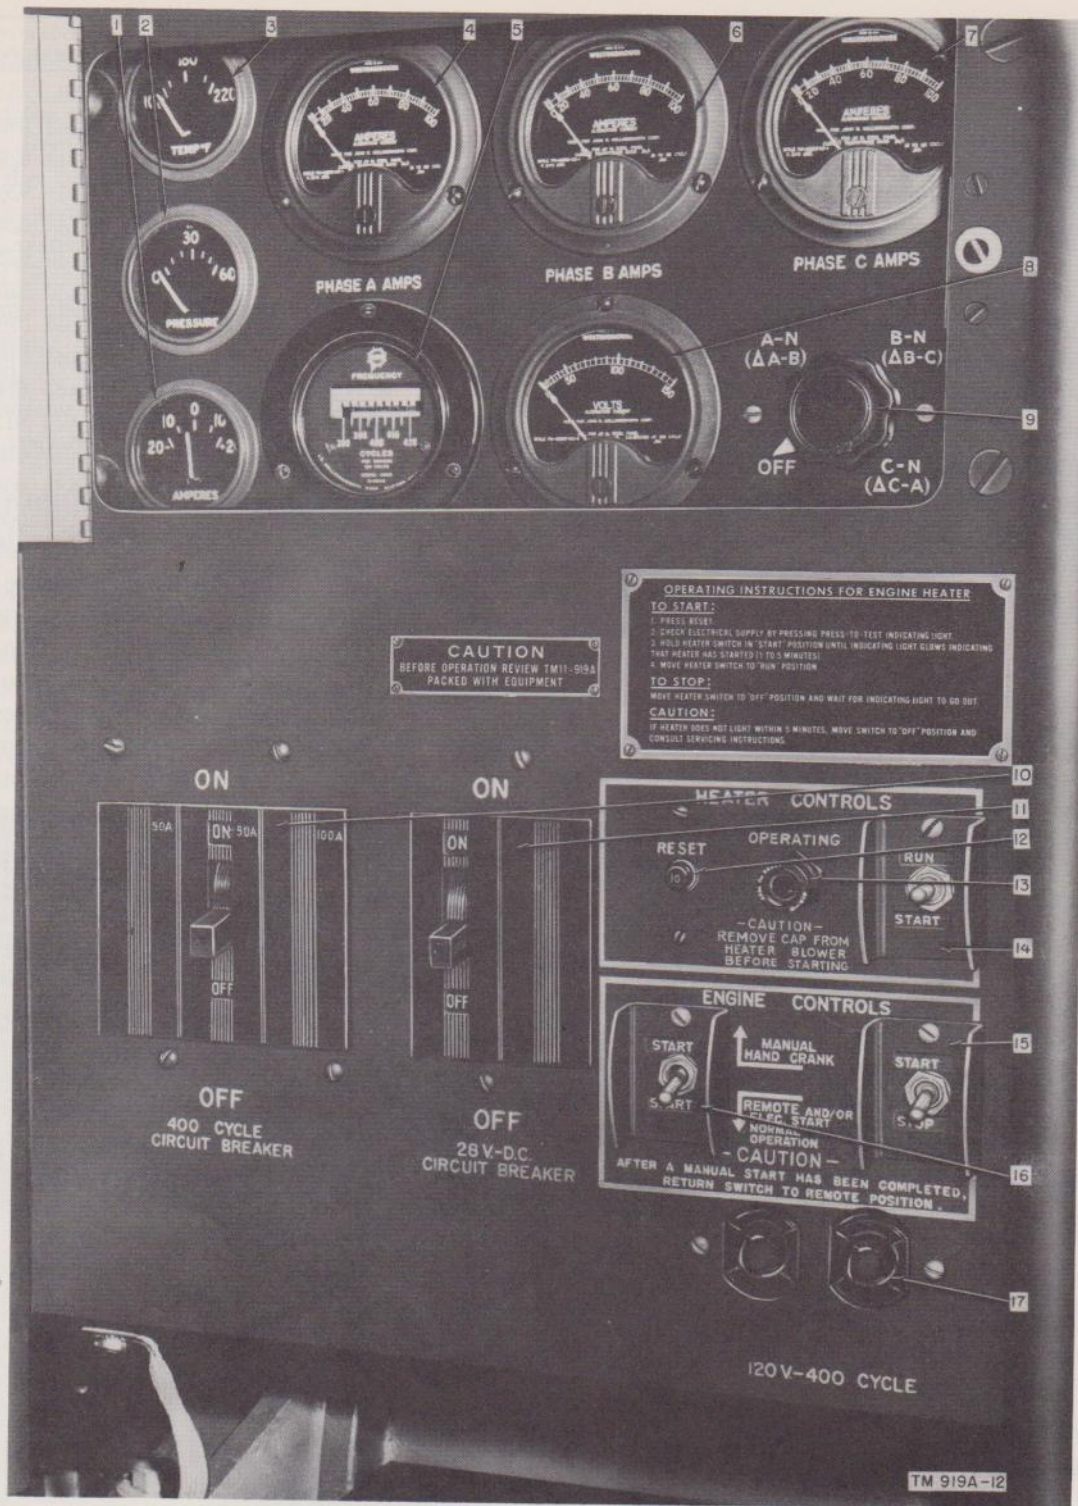

Figure 12. Instrument and control panel.
- (1) *Ignition switch* (16, fig. 12). A toggle-type switch, located on the control panel, selects the ignition circuit for MANUAL HAND CRANK or REMOTE AND/OR ELEC. START NORMAL OPERATION. If the unit is to be started by hand cranking, place the switch in the MANUAL HAND CRANK position; if the set is to be started remotely or by the START-STOP switch (subpar. (2) below), place the switch in the REMOTE AND/OR ELEC. START NORMAL OPERATION position.
- (2) *START-STOP switch* (15, fig. 12). The three-position, START-STOP toggle switch is located on the control panel. To start the set, hold the switch in the START position; to stop the set, place the switch in the STOP position. The switch is designed so that the actuating handle returns to the center position when released from the START position.
and a variable voltage resistor. The 28-V. D. C. CIRCUIT BREAKER (11, fig. 12), mounted on the control panel, serves as the main load switch and the overload trip in the dc circuit. To connect the load, push the trip lever to ON; to disconnect the load, push the trip lever to OFF. The circuit breaker trips off automatically (par. 19b(1)) whenever the circuit becomes overloaded. To reset the circuit breaker after it has tripped, push the lever all the way down to the OFF position and then up to the ON position. The variable resistor on the dc voltage regulator (3, fig. 4) has a range of from 25 to 30 volts. Turn the slotted shaft of the variable resistor until the desired voltage is reached.
c. Winterization System (fig. 12). All the winterization controls are located on the control panel.
- (1) *Circuit breaker* (RESET). The circuit breaker (RESET) (12) is used as the main switch to connect and disconnect the winterization system circuit. Push in the RESET button all the way to connect the system; pull out the button to disconnect the system. The circuit breaker trips off automatically (par. 19c(1)) whenever the circuit becomes heavily overloaded. To reset the circuit breaker after it has tripped, push in the RESET button.
- (2) *Heater RUN-START switch*. The heater RUN-START switch (14) is used to start and run the winterization heater. To start the heater, after the RESET button has been pushed in (subpar. (1) above), hold the switch in the START position 2 to 4 minutes. After the heater OPERATING indicator lamp (subpar. (3) below) flashes on, place the switch in the RUN position. To shut off the heater, place the switch in the off (center) position.
- (3) *Heater OPERATING indicator lamp*. The heater OPERATING indicator lamp (13) shows when the heater is in operation (par. 19c(2)). The lamp also may be used as a check on the power supply to the heater. To check the power supply, be sure the circuit breaker (RESET) button (subpar. (1) above) is in all the way. Then press the lamp. If power is available, the lamp will glow.
- (1) *Circuit breaker* (fig. 12). The 400 CYCLE CIRCUIT BREAKER (10) mounted on the control panel, serves as the main load ON-OFF switch and the overload trip in the ac circuit. To connect the load, push the trip lever to ON; to disconnect the load, push the trip lever to OFF. The circuit breaker trips off automatically (par. 19d(1)) whenever the circuit becomes heavily overloaded. To reset the circuit breaker after it has tripped, push the lever all the way down to the OFF position and then up to the ON position.
e. Miscellaneous. The 120V-400 CYCLE duplex receptacle (17, fig. 12) mounted on the control panel, is a means of connecting external power for trouble-shooting lamps, fans, or similar equipment requiring 120-volt, 400-cycle power. The receptacle is the Twistlock type and contains two connectors.
- (1) *Circuit breaker* (11, fig. 12). The 28-V. D.C. CIRCUIT BREAKER, mounted on the control panel, trips automatically if the circuit becomes heavily overloaded. The thermal trip release is factory-set for time-delay operation and the circuit breaker is sealed. To reset or manually operate the circuit breaker as a load switch, refer to paragraph 18b.
- (1) *Heater circuit breaker* (12, fig. 12). The heater circuit breaker (RESET) trips automatically when the heater circuit becomes heavily overloaded. For use as a master switch and for the method of resetting, refer to paragraph 18c(1).
- (2) *Heater OPERATING indicator lamp*. The
a. Engine Instruments (fig. 12). All the engine instruments are located on the instrument panel.
- (1) *Oil-pressure gage*. The oil-pressure gage (2) indicates the pounds per square inch of oil pressure being delivered to the engine bearings. The gage is of the electric type and will not operate unless the batteries are connected. The gage has a 0 to 60-pound
- (2) *Coolant temperature gage.* The coolant temperature gage (3) indicates the temperature of the engine coolant. The gage is of the electric type and will not operate unless the batteries are connected. The scale reading on the gage is from 100° F to 220° F. Normal engine operating temperature is from 165° F to 185° F. If, after warm-up, abnormal temperature is indicated on the gage, proceed as follows: check the coolant and the engine oil level; check the water pump, fan, fan belt, and thermostatic valve for proper operation. Never operate an overheated engine.
- (3) *Battery-charging ammeter.* The battery-charging ammeter (1) indicates the rate in amperes at which the batteries are being charged or discharged. The ammeter is calibrated to read from -20 to +20 amperes. Under normal conditions, a charging rate of $+\frac{1}{2}$ to +5 amperes should be indicated. A higher rate may be indicated if the batteries are discharged. During cold temperatures that require the use of the winterization system for cold engine starting, the use of the heater will indicate a negative (discharge) reading on the ammeter. Starting the heater will show a -12-ampere reading from 1 to 5 minutes; and running the heater will show approximately $-\frac{3}{4}$ ampere. Negative readings, while the unit is operating, may also indicate that the battery leads are reversed or that there is a short circuit in the charging system. No reading indicates a faulty charging system or a loose or broken connection.
b. *Alternator Instruments* (fig. 12). All the alternator instruments are located on the instrument panel.
- (1) *Voltmeter.* The voltmeter (8) is connected to read phase voltage and has a maximum scale reading of 150 volts. A voltmeter selector switch (9), provides facilities to check the voltage from phase to neutral (A-N, B-N, and C-N) when the unit is connected in wye and from phase to phase (Δ A-B, Δ B-C, and Δ C-A) when the unit is connected in delta. With the alternator operating under full balanced load, the voltmeter will indicate 120 volts in all phases. Under no load, the voltmeter will register about 124 volts. If the voltage is too high or too low, check the frequency meter and adjust the engine speed governor as instructed in paragraph 25b.
- (2) *Frequency meter.* The frequency meter (5) indicates the cycles per second (cps) of the current being produced by the alternator. Engine speed determines the frequency of the alternator output. The meter scale provides for indications of 380 to 420 cps. Under stable operation at full load, the frequency meter must indicate 400 cps. Any deviation from the desired reading can be adjusted by changing the engine speed as described in paragraph 25b.
- (3) *Ammeters.* The three ammeters (4, 6, and 7, fig. 12), connected to the alternator circuit by current transformers, register phase current. The ammeters are designated PHASE A AMPS, PHASE B AMPS, and PHASE C AMPS and provide a maximum scale reading of slightly more than 100 amperes. When the alternator is connected for single-phase, 120-volt output (delta), the PHASE A AMPS and PHASE C AMPS ammeters will register 104 amperes under full load. The PHASE B AMPS ammeter will indicate zero. When the alternator is connected for three-phase, 208-volt output (wye), all the ammeters will register 43.5 amperes under full load. Abnormal ammeter readings indicate an unbalanced load, defective ammeters, or defective lines to the load.